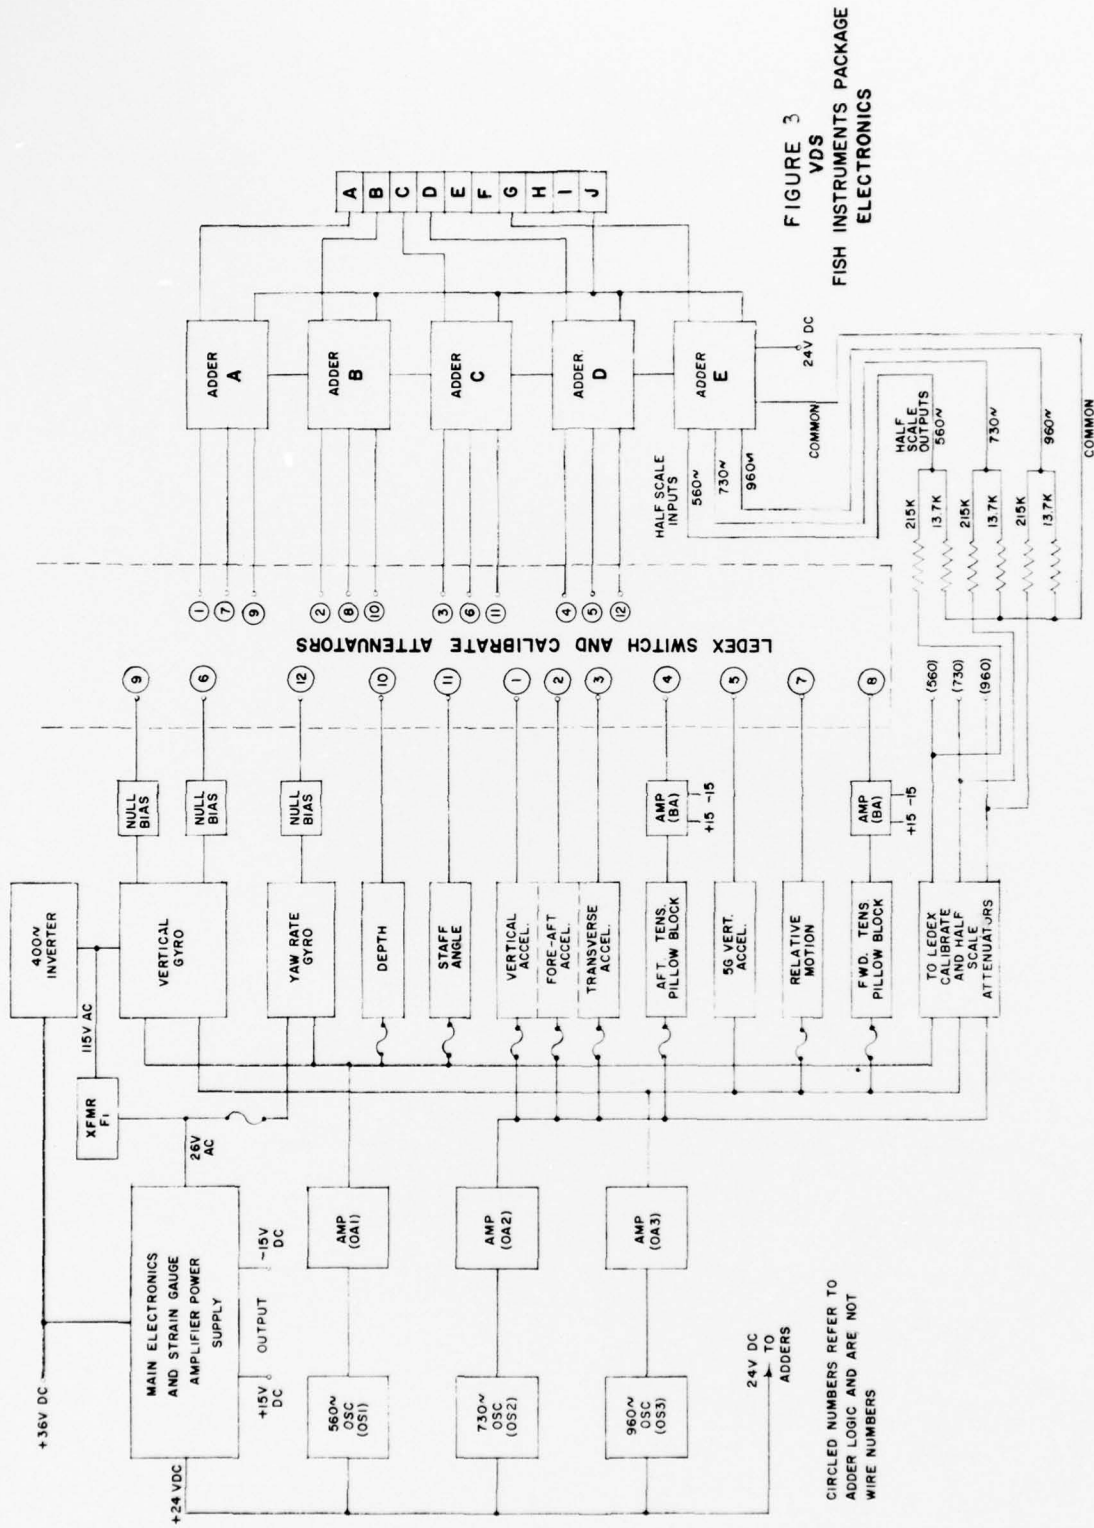

FIGURE 3
1. Fish Instrument Package and Associated Sensors (Figure 3)